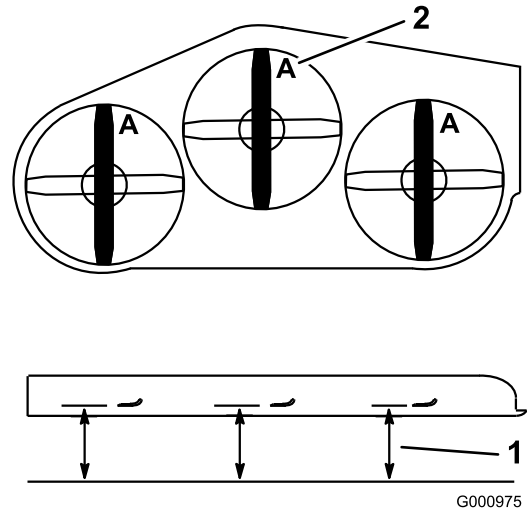

Figure 78
2. Measure from a level surface to the cutting edge, position A, of the blades (Figure 78).